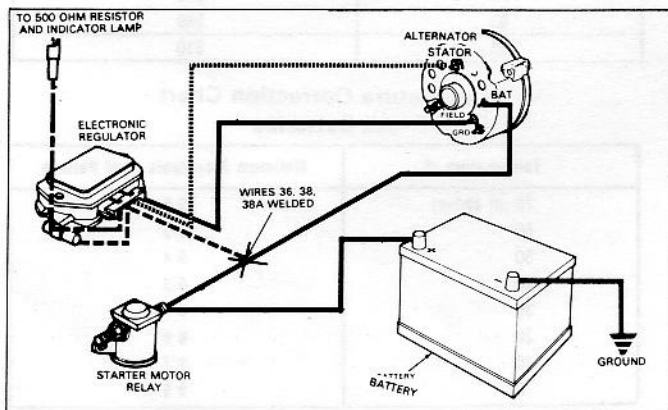

Fig. 3 - Charging System with Electronic Regulator and Warning Lamp Indicator
**Caution:** Be sure field terminal connector is installed on the "Field" terminal stud at alternator and not the ground stud (Figs. 3 and 4).